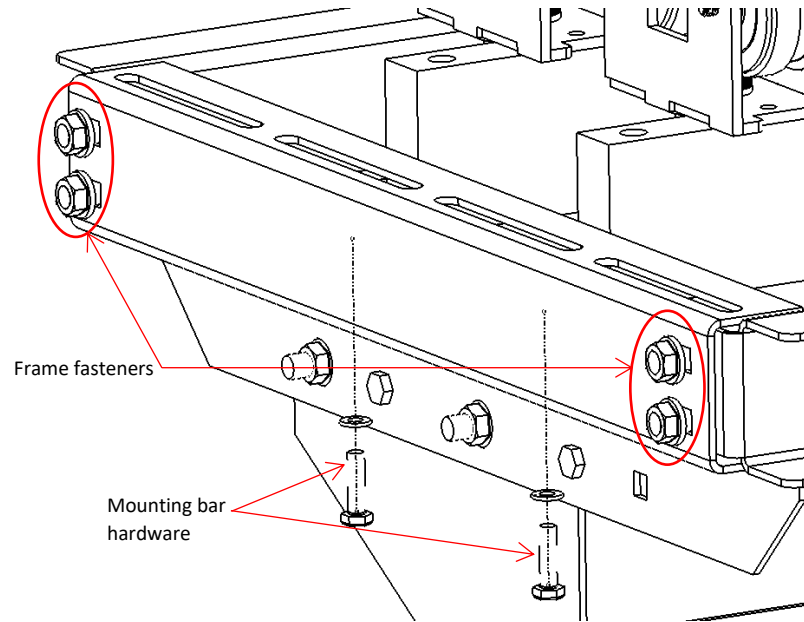

Figure 23: Mounting bar screws and serrated flange nuts on left side of PWD frame
6. Loosen the mounting bar screws on the both side of the PWD. **Loosen the (4) 3/8" serrated flange nuts on the left side of the frame and remove the (2) 1/4"-20 hex head mounting screws on the left side ONLY.** Refer to Figure 23 that illustrates the location of the mounting bar screws under the PWD frame. The torque requirements for the 3/8" carriage bolts and serrated flange nuts is 31 ft-lbs. The torque requirements for the 1/4"-20 hex head cap screws are 101 in-lbs.